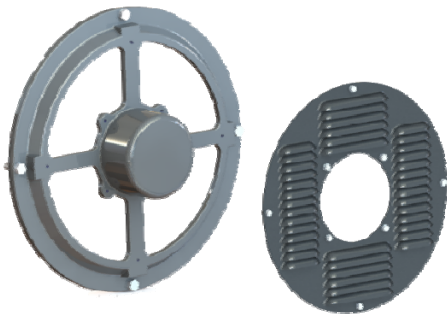

Figure 14.37: Withdrawal of shutter cover
- 3) Withdraw the exciter cover shutter cover with PMG, withdrawing the 08 hexagon headed screws M6, according to Figure 14.37;